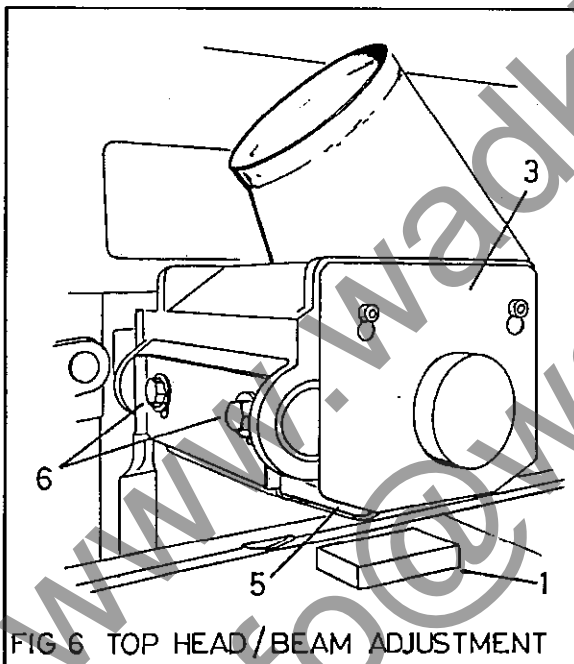
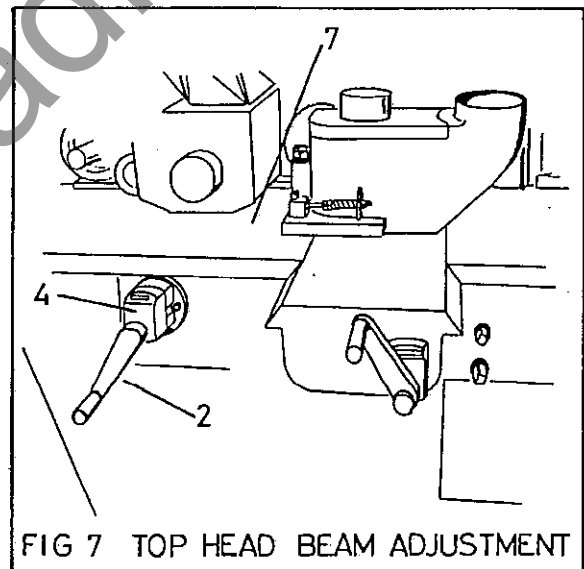

FIG 6 TOP HEAD/BEAM ADJUSTMENT
FIG 7 TOP HEAD BEAM ADJUSTMENT
When the powered top head/beam is fitted it should be set at the same time. Ensure all other heads, fences, feed rollers, etc, have been set before passing timber through. Near side head guide (8) and top head pressure (Fig 6 item (5)) should be adjusted clear of the timber to be passed through.
Top Head/Beam Adjustment (Fig 6, Fig 7)